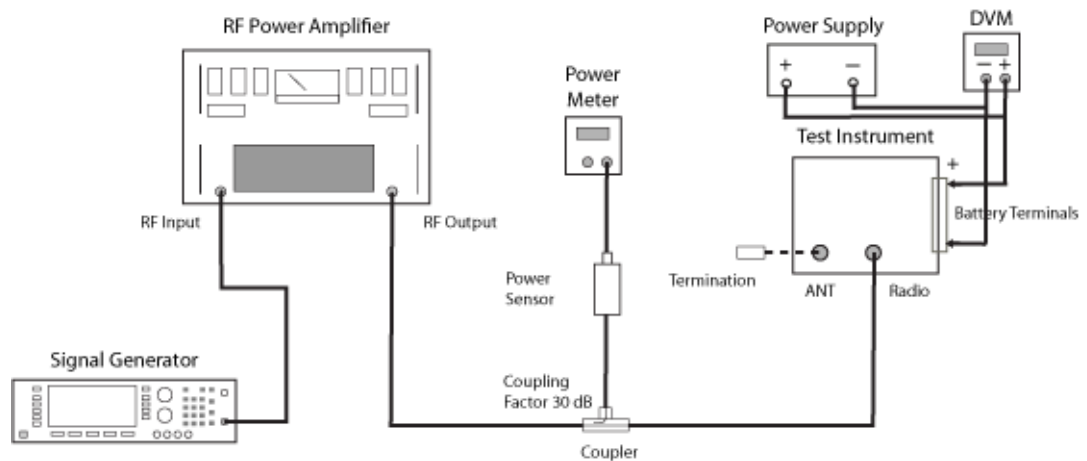

Figure 10 Transmitter Test Setup
- 1 Connect the equipment as shown in Figure 10.